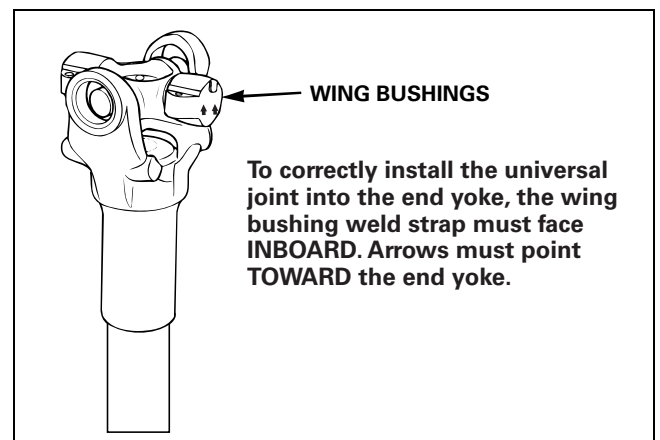

Figure 4.31
2. Install the universal joint into the yoke so that the wing bearing weld straps face **INBOARD** and the arrows point toward the end or coupling yokes. Figure 4.31.